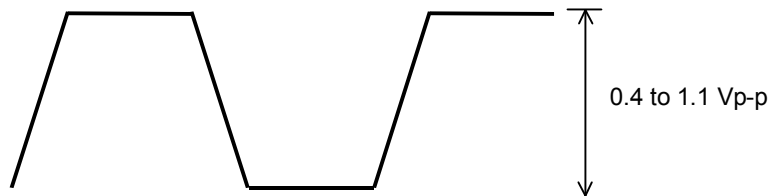

Fig. 6.3.6-2 Example of waveform measured by sampling oscilloscope
4. Use the averaging function of the sampling oscilloscope to measure the waveform, and then check that the level of the measured waveform falls within the range shown Fig. 6.3.6-2.